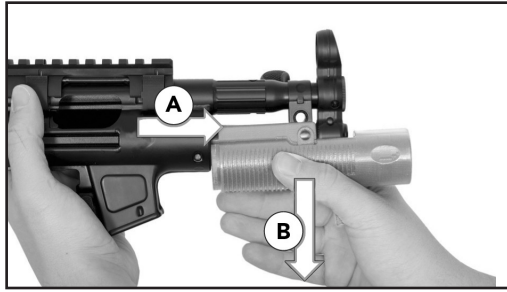

Fig. 38 – Remove pistol grip
7. Pull handguard towards muzzle (A) and downwards (B) to remove it (Fig. 38).